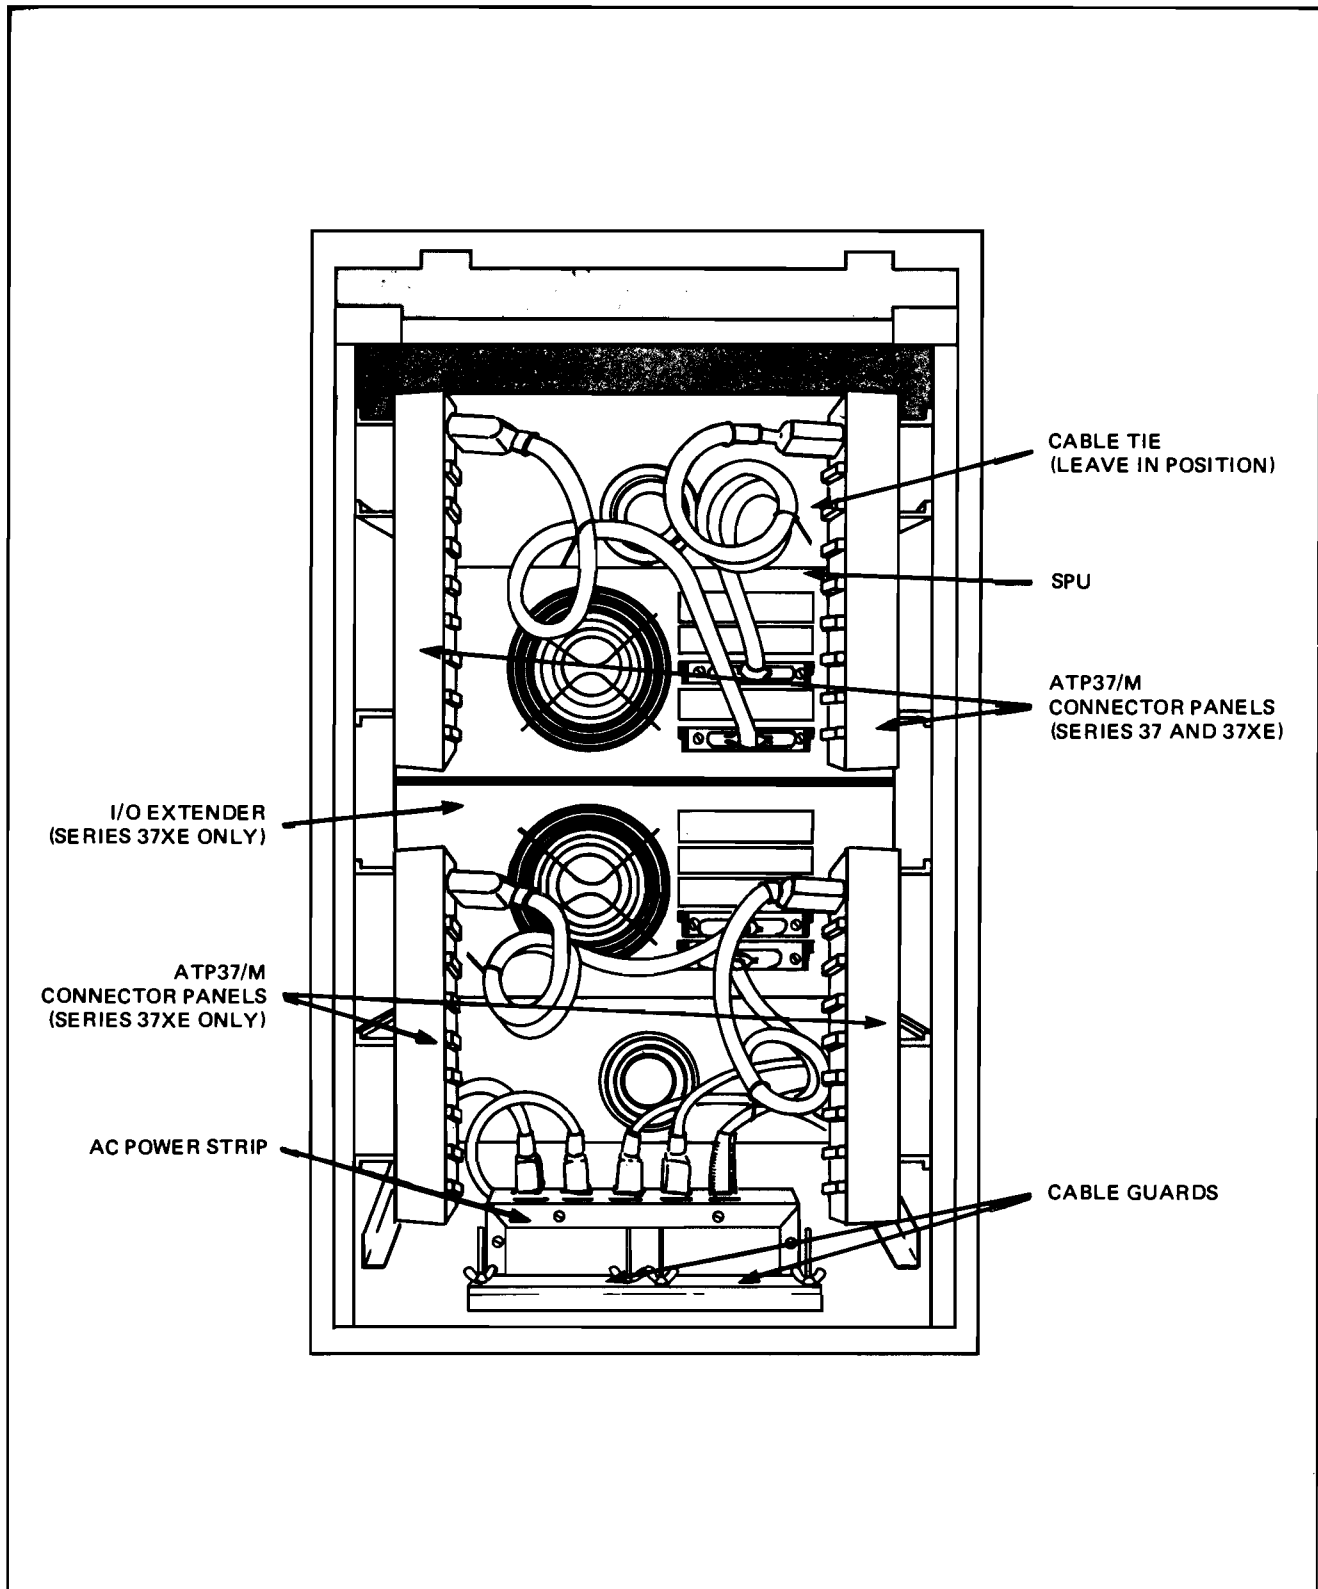
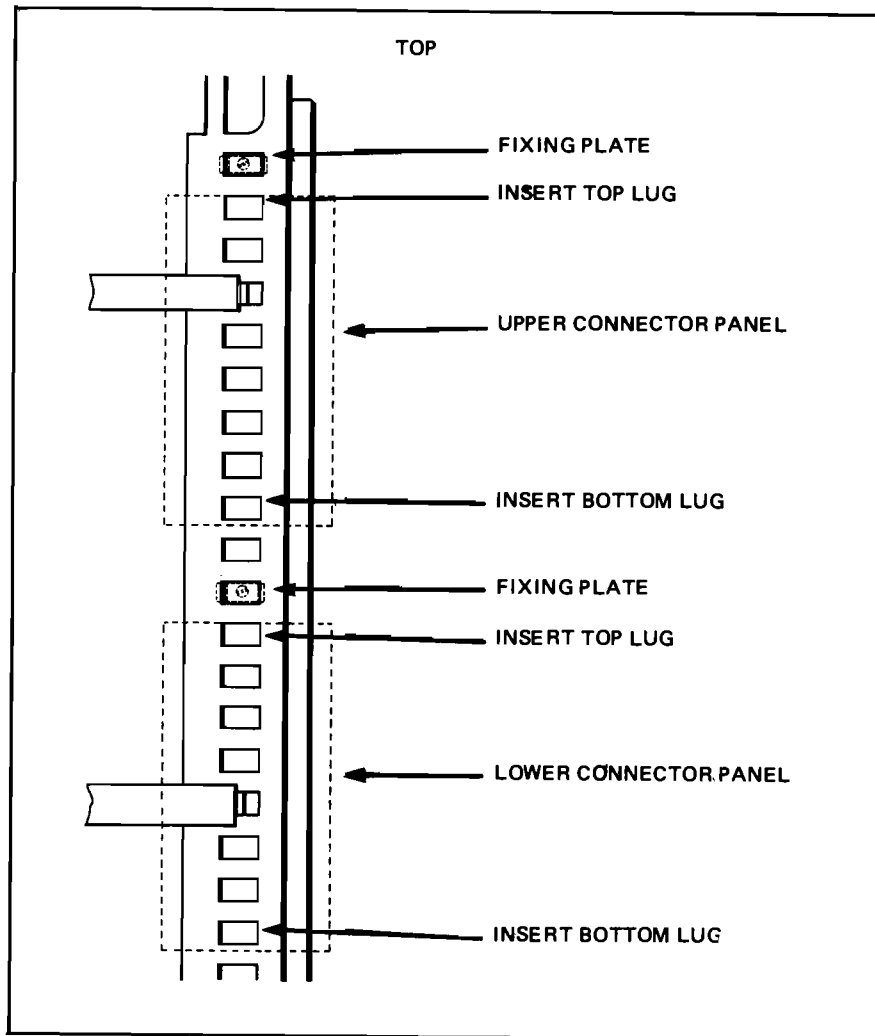

Figure 2-4 Series 37XE Cabinet With Four ATP37/M Connector Panels
Figure 2-5 ATP37/M Connector Panel Positioning
- a) Refer to Figures 2-4 and 2-5. Figure 2-5 shows the mounting positions of two ATP37/M Connector Panels on the vertical strut inside the rear of the cabinet (right side). The vertical placement of the connector panels is identical on both sides of the cabinet. It is recommended that the connector panels associated with the SPU are mounted above those of the I/O Extender.
- c) Insert the top lug of the connector panel mounting plate in the vertical strut at the correct position with reference to Figure 2-5. Then insert the bottom lug and push the connector panel down to locate it.
- Refer to Figures 2-4 and 2-8. The locking screws on the 50-pin connectors are held in place by retaining circlips which can be left in position. It is not necessary to remove the cable tie from the cable to install it in the cabinet.
- a) Refer to Figure 2-4. Remove the two wing-nuts and the top plate from the cable guard on the same side as the connector panel.